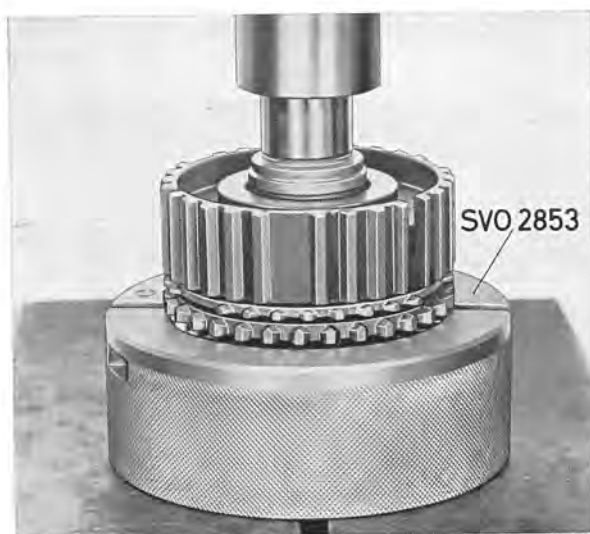

Fig. 4-25. Disassembling mainshaft, II
4. Revert the shaft and place it in the press as shown in Fig. 4-25. Press off 3rd speed gear wheel and 4th speed synchronizing hub.